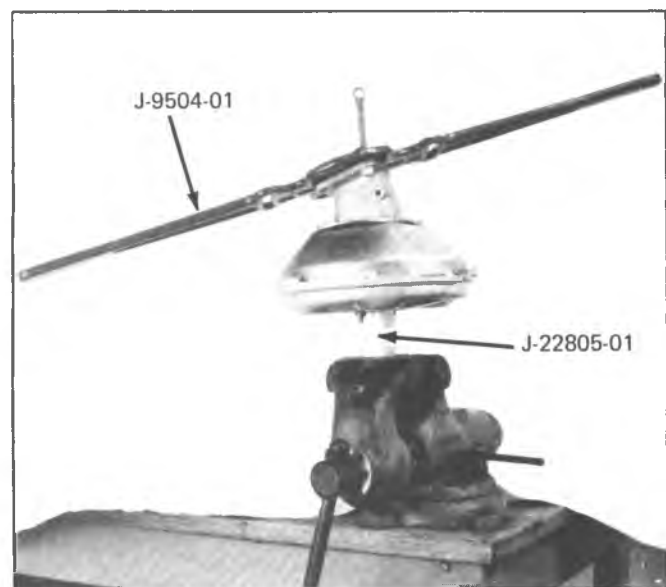

Fig. 5-2C-- Separating Power Brake Unit
2. Using holder J-22805-01 and Handle J-9504-01, rotate rear housing counterclockwise to unlocked position (fig. 5-2C). Loosen housing carefully as it is spring-loaded.